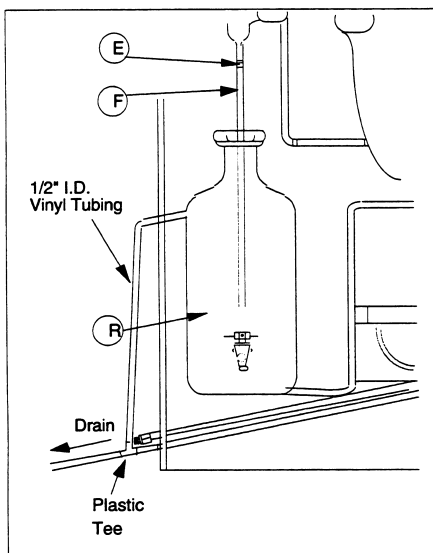

Figure 10 Storage Bottle Installation
2. Locate plastic tee (1/2 x 1/2 X 1/2) and 20" length of 1/2" vinyl tubing in parts box. Connect to bottle overflow tubulation and drain as shown in Figure 10 below.